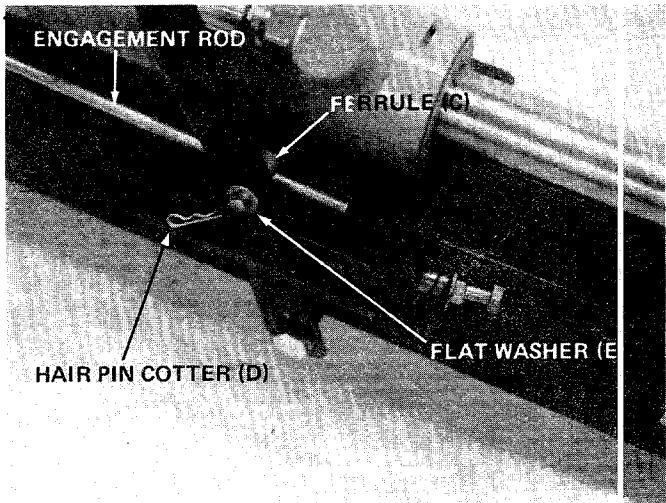
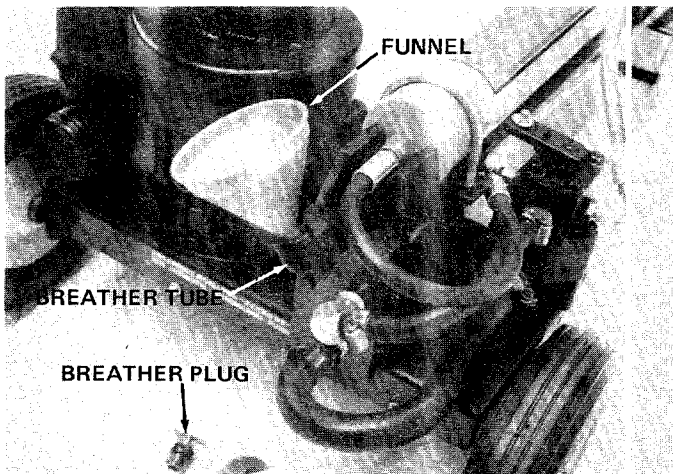

FIGURE 5.
FIGURE 11.
4. Place the engagement handle in the notch in the slotted bracket. See figure 5. Thread the ferrule (C) onto the engagement rod until the ferrule lines up with the hole on engagement handle.
5. Secure the ferrule (C) to engagement handle with flat washer (E) and hairpin cotter (D). See figure 5.
3. Fill reservoir tank on log splitter. Remove the breather plug from breather tube. See figure 11. Pour approximately 2 gallons of Dexron automatic transmission fluid **ONLY** into breather tube.
2. Remove check pipe plug in rear of beam. See figure 5. If oil starts to come out of check pipe plug hole, oil level is correct. **IF IT DOES NOT**, add oil to breather tube (see figure 11) until oil starts out.